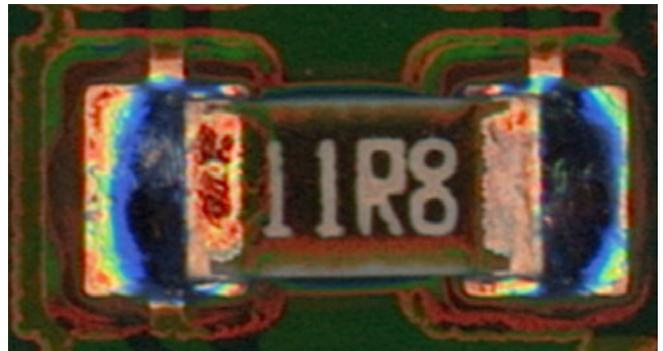

Figure 15: Good solder joint sample.
The 3D-SJR approach was applied over different component packages (0402, 0804, and 1206). Figure 15 illustrates an SMD component with a good solder joint.
According to the IPC A-610 standard, the solder height at the component electrode must be at least 25% of the electrode height, C_z (19). Considering the component size of the package illustrated in Figure 15 and the camera resolu-